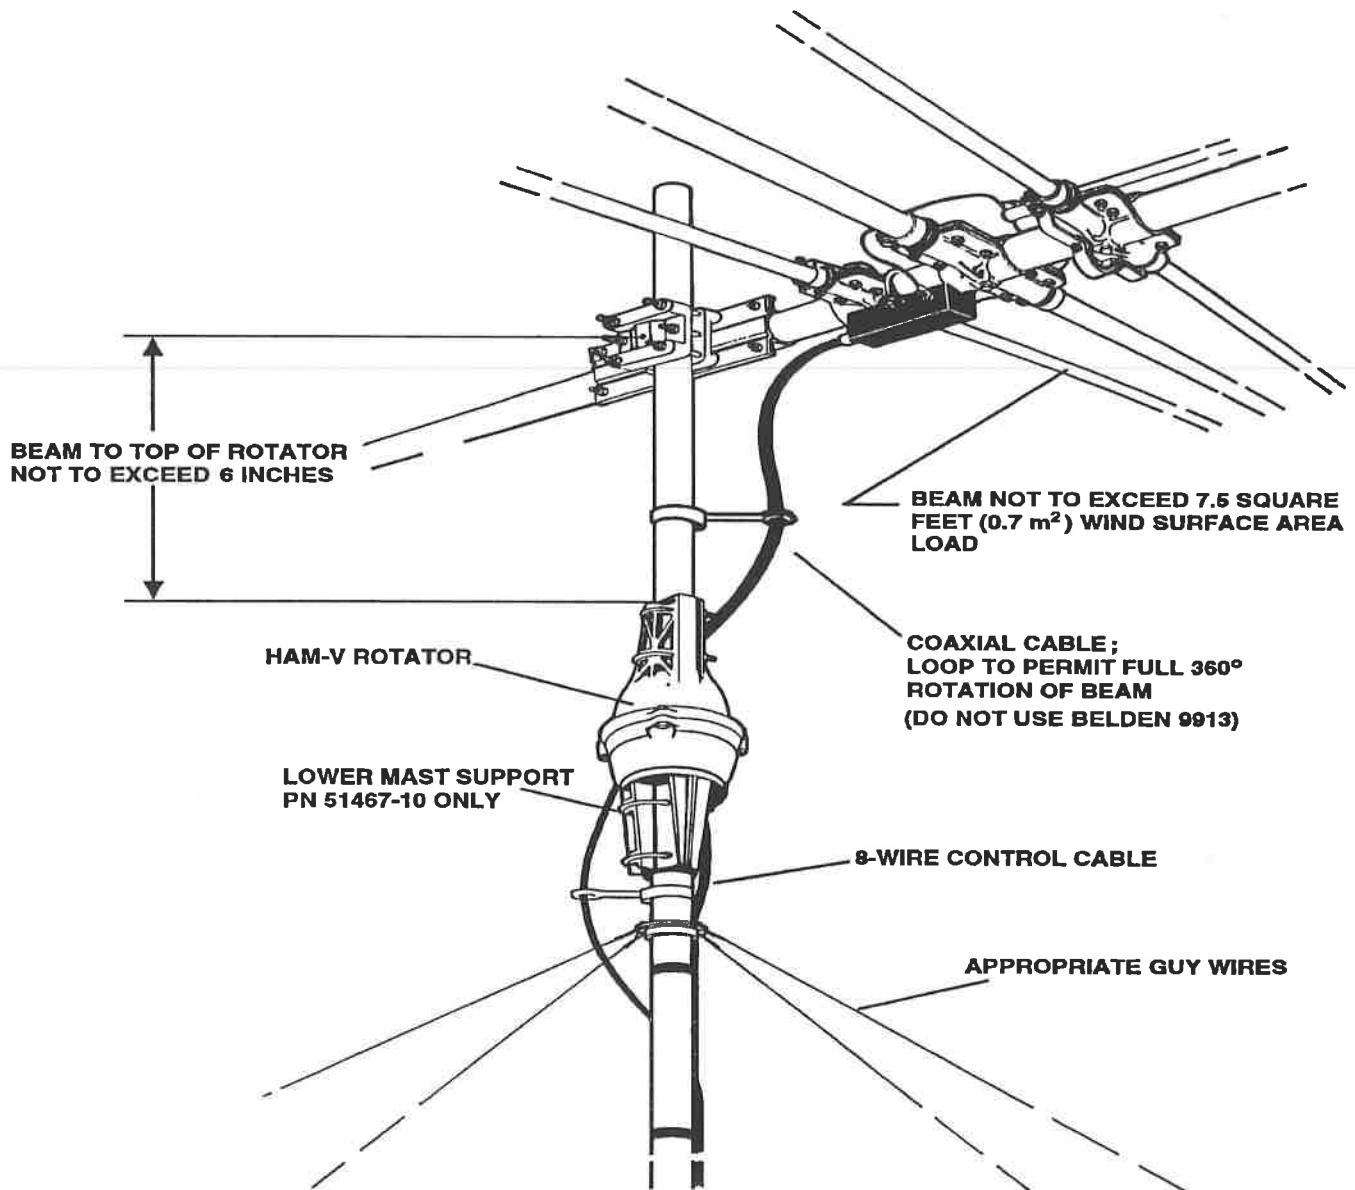

Figure 5
The optional heavy-duty lower mast support kit must be procured if you elect to use a mast mount (see Figure 5 and 9). The part number for this kit is 5146710. When using the lower mast support, the antenna size is restricted to 7.5 square feet of wind area. The "inside tower mount" configuration is recommended (see Figure 3 and 8).
The rotator is mounted to a vertical mast, see Figure 5 and 9, by means of four (4) bolts and the optional lower mast support, P/N 5146710. Use the following procedure:
1. Attach the rotator to the lower mast support by means of four (4) bolts, nuts and lockwashers. Tighten the four (4) bolts. Attach this assembly to the top of the mast as shown in Figure 5. Tighten all bolts securely.